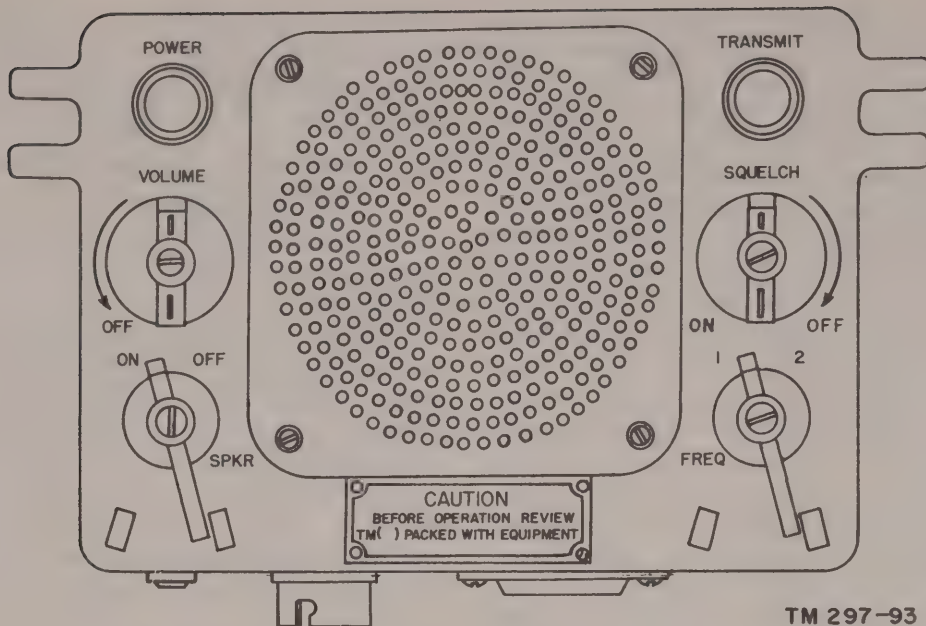

Figure 22. Radio set control C-847/U, front panel controls.
30. Radio Set Control C-847/U, Controls (fig. 22)